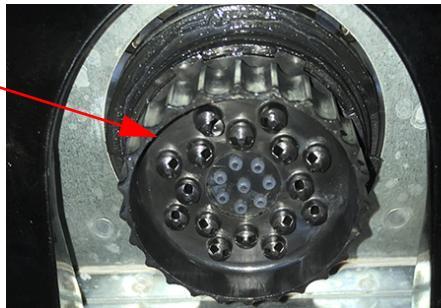
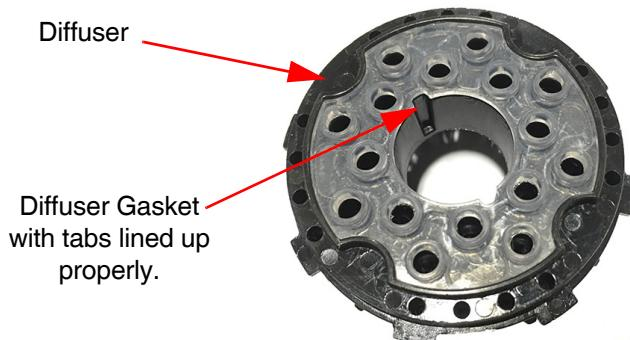

Figure 70
Figure 71
- First, make sure the **diffuser gasket** is seated properly and is in the correct position on top of the **diffuser** as shown in Figure 71. Then, push the diffuser on to the nozzle base so that the diffuser gasket is against the nozzle base. See Figure 70.
- Finally, place the nozzle housing (with the nozzle inside) over the nozzle base (as shown in Figure 70) and turn the housing approximately 1/4 turn (counter-clockwise) to secure the housing to the nozzle base.